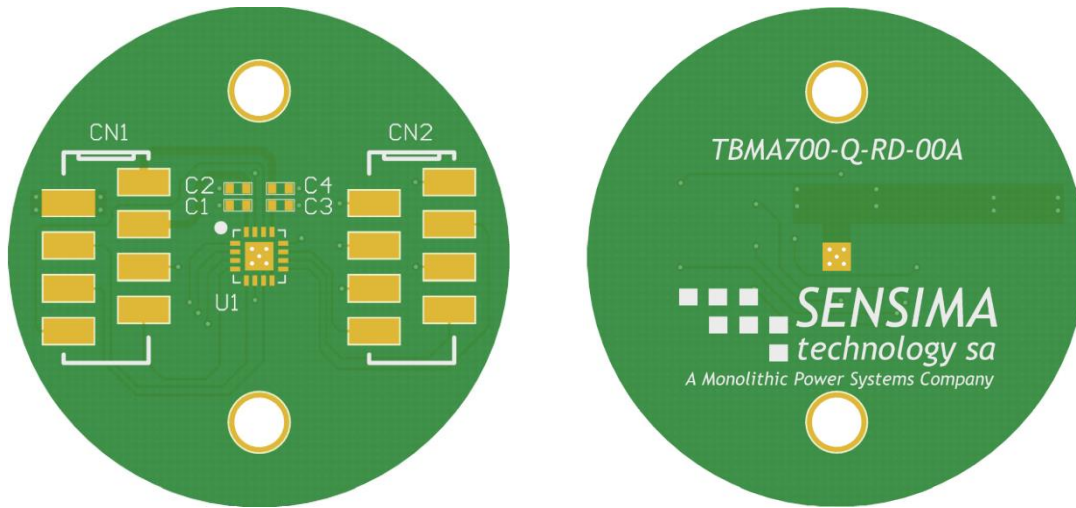

Figure 3: RD Board Overview Type 1
Figure 3 shows an overview of the Type 1 round (RD) board type.